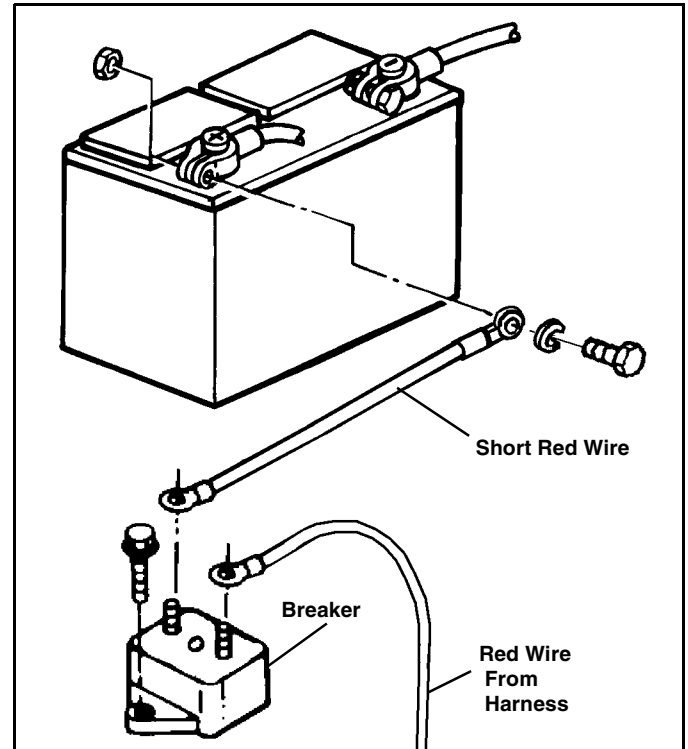

Figure 1-8
17. Locate short red wire (#96106728) with two ring terminals. Attach the small ring terminal to the copper colored post marked BAT on the breaker. Attach the other, large ring terminal to the battery positive terminal. (See Figure 1-8).